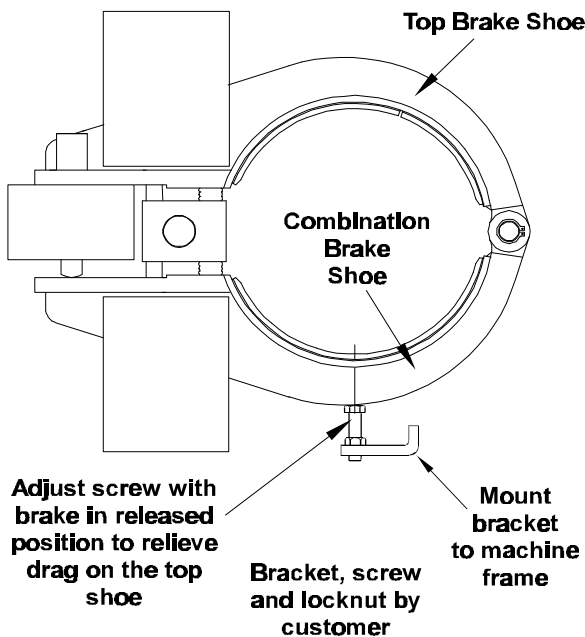

Figure 5
- 2.2.5 If an off-balance mounting, as shown in Figure 5 is used, the top brake shoe may ride on the top of the brake drum when the brake is in the released position. This condition must be avoided. To alleviate this condition, an "L" shaped bracket with a hex head cap screw and locking nut can be mounted under the combination cylinder (4) and brake shoe (17) to ensure top shoe separation from the drum when the brake is in the released position. Also read 2.2.1.